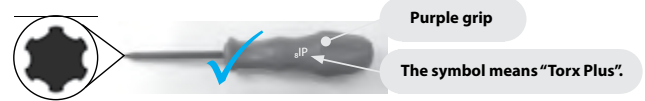

Fig. 1 "Torx Plus" Wrench (For MEW)
- Ref. to Fig. 1 for "Torx Plus" Wrench. (Purple grip)